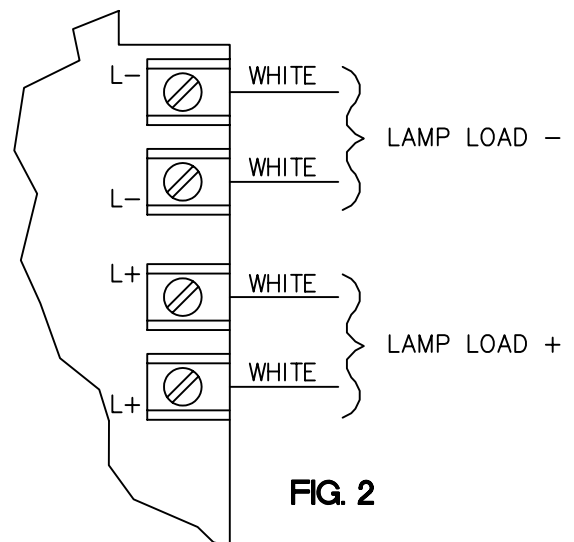

FIG. 2
3. Remove keyway knockouts (2) if cabinet is to be mounted to wall.
5. Connect lamp wires to printed circuit board assembly as shown in Figure 2.